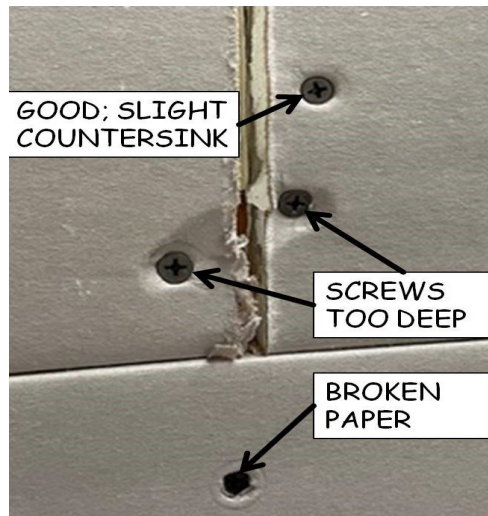

Figure 13-2. Examples of Countersunk Sheetrock Screws.
6. **Screws should be installed straight in (i.e., at a 90° angle to the sheetrock) and deep enough so the head is SLIGHTLY recessed (countersunk) below the paper surface of the sheetrock (see Figure 13-2). If the outer layer of paper is torn, or the gypsum is crushed between the paper layers, the screw is too deep and the holding power of the screw is compromised. Leave the screw in place but add another screw about 2" away. Adjust the depth setting of the driver to ensure the correct depth.**